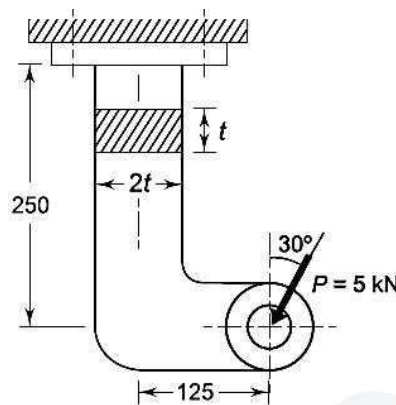

Figure: 5.4
7. A bracket, (Fig: 5.4) made of steel FeE 200 ($S_{yt} = 200 \text{ N/mm}^2$) and subjected to a force of 5 kN acting at an angle of 30° to the vertical, is shown in Fig. The factor of safety is 4. Determine the dimensions of the cross-section of the bracket.
- Geometry from Fig.5.4: the distance from the fixing (top) down to the line of action of P is 250 mm. The horizontal projection (lever arm from the vertical leg to the load) is 125 mm. The cross-section is rectangular, width = $2t$ and thickness = t (i.e. $b = 2t$ and depth $h = t$). (This matches the figure.)